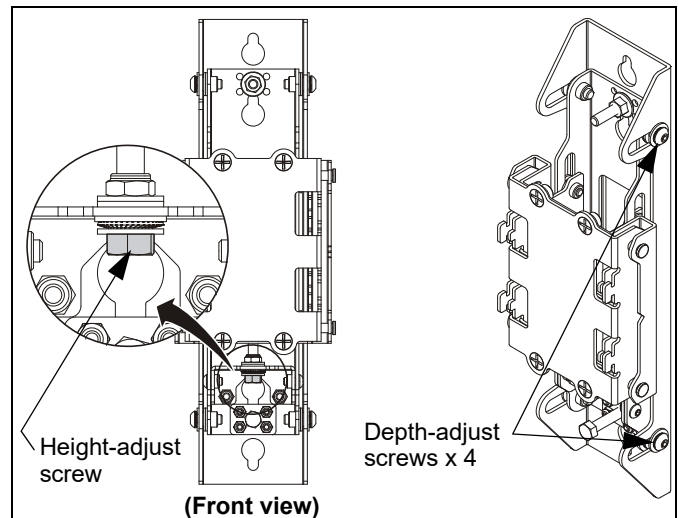

Figure 18
- Adjust the height of the mounting rail via the wall upright, as necessary, to level the mounting rail on the wall. (See Figure 18)